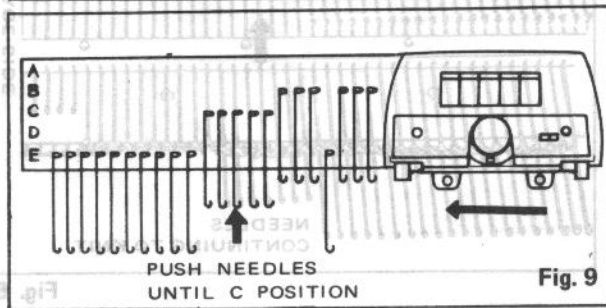

Fig. 9
4. Push the needles continuing to knit to C position as shown in Fig. 9 and knit one row.
6. After pushing the needles continuing to knit to C position select the needles according to the relative knitting diagram and knit one row. (Fig. 9)